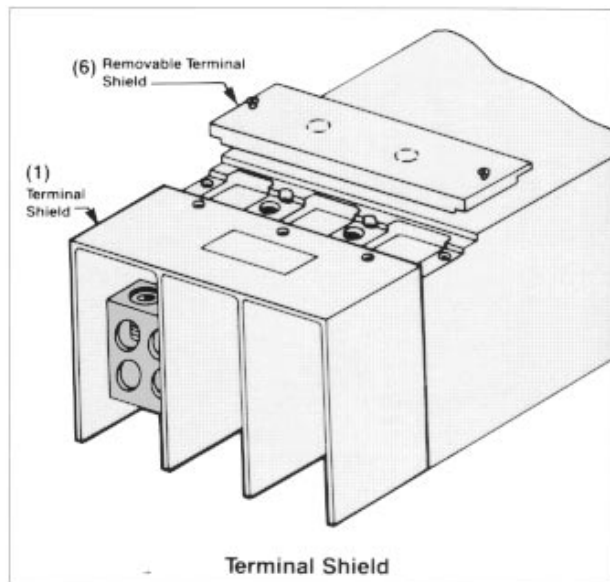

Figure 2
- F. Mount removable terminal shield (6) (Figure 2) to end of circuit breaker. Shield should be flush with end of circuit breaker.